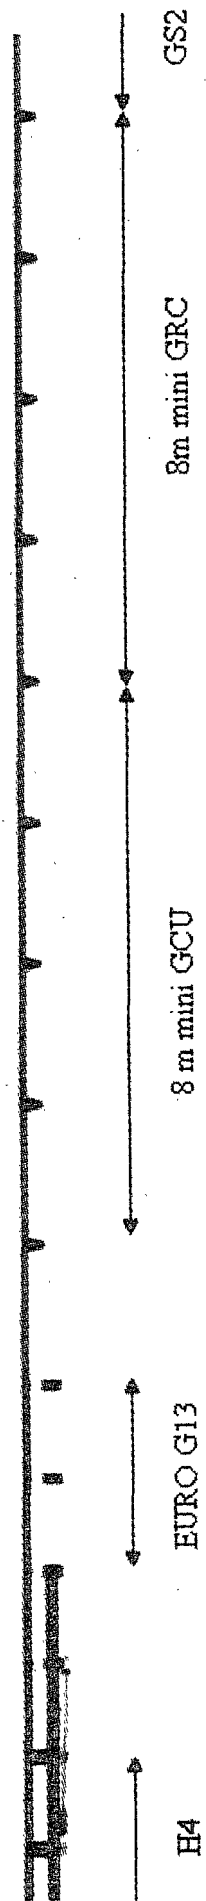

Figure 19 - Raccordement H4-GS solution 2
- Figure 19. - Raccordement Systech H4-GS solution 2.